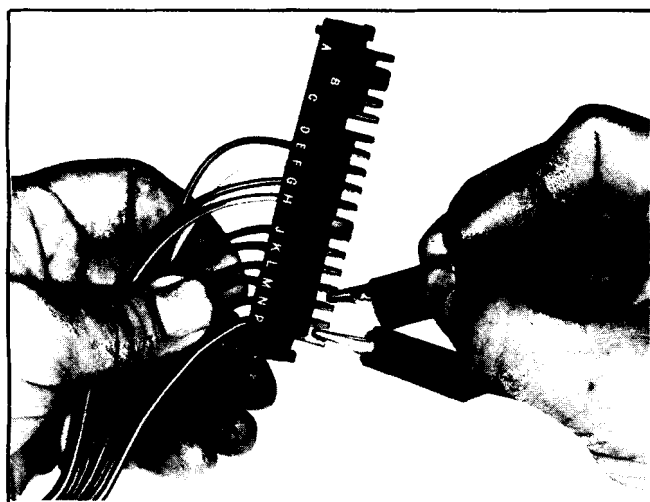

Fig. 12-12 Using Continuity Checker
4. Connect one end of continuity checker to terminal "P" (Figure 12-12).